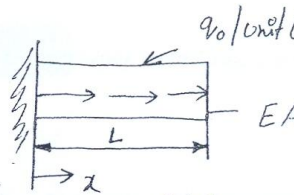

Fig. Q1(b) fixed free bar
b. Determine the expression for displacement of a cantilever bar subjected to UDL load q_0 as shown in Fig. Q1(b) by Rayleigh – Ritz method. (10 Marks)